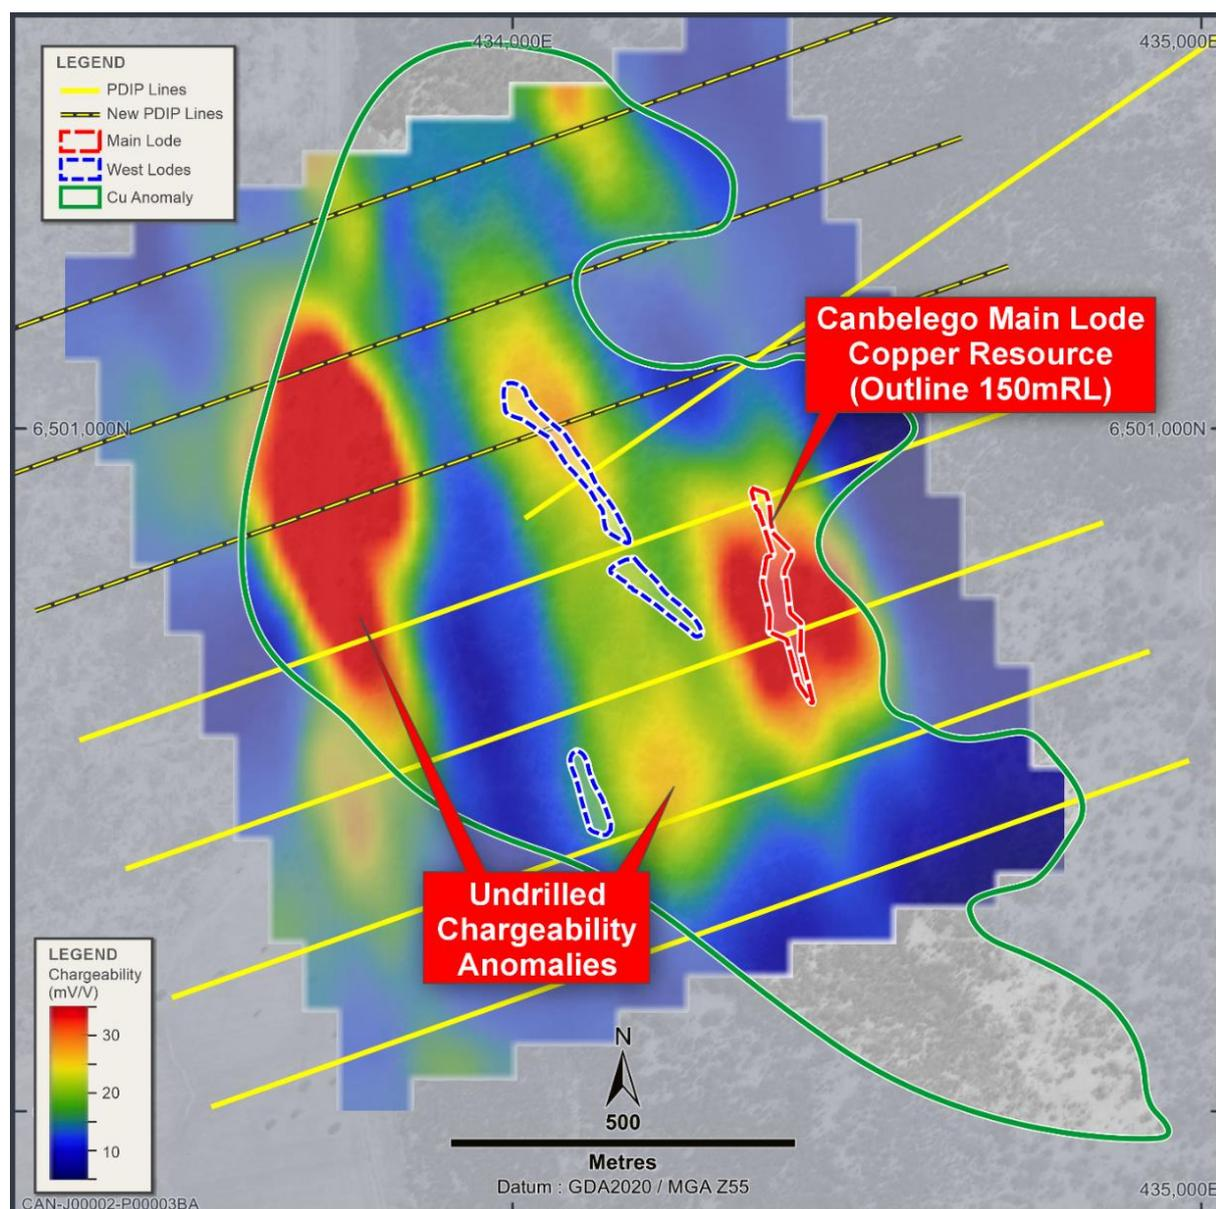

Figure 1 – Canbelego 3D inversion IP chargeability depth slice at 130mRL (175m below surface) and outline of anomalous surface copper geochemistry.
The Company recently completed an induced polarisation (IP) survey northwest of the Canbelego copper deposit extending the IP coverage north of known mineralised zones at Canbelego⁴ (Figures 1 and 2). A pole-dipole (PDIP) array was used for all lines, using 100m receiver dipoles, with 50m dipoles used on the northern most line.
Significantly, this anomaly is outside the previously drilled area, but within the surface copper geochemical anomaly (Figures 1 and 2). The depth to the top of the chargeable zone is approximately 130m vertical and this PDIP anomaly represents a compelling drill target.